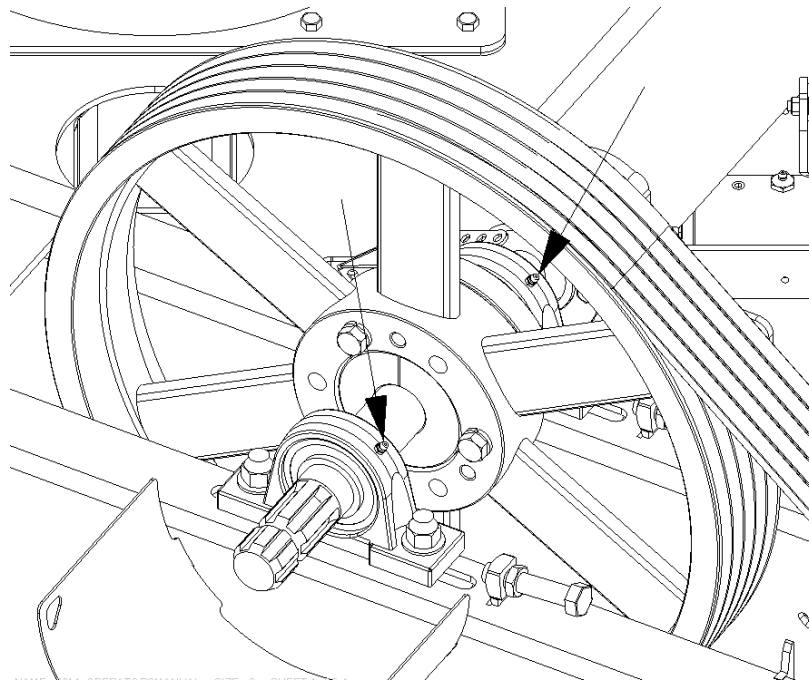

Figure 7-40: Splined input shaft and bearing lubrication locations
7. Lubricate the splined input shaft and bearings in the two locations shown in **Figure 7-40**.